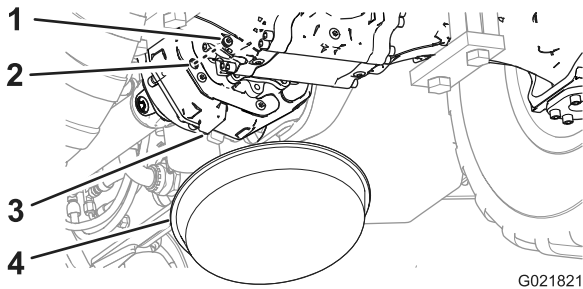

Figure 72
1. Place a drain pan under the back side of the transmission housing (Figure 72).
2. Remove the plug from the sight port in the transmission (Figure 72).
3. Look through the sight port and check that the oil level in the transmission is level with the bottom of the threads of the port (Figure 72).
6. Install the sight plug into the sight port of the transmission housing (Figure 72).